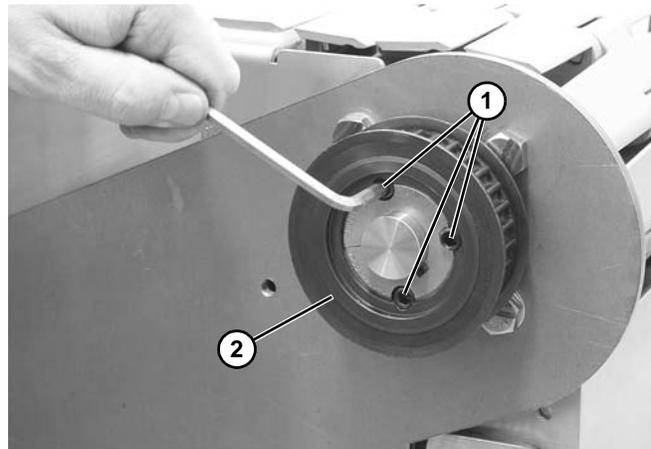

Figure 51
4. Loosen set screws (Figure 51, item 1) and remove driven pulley (Figure 51, item 2).